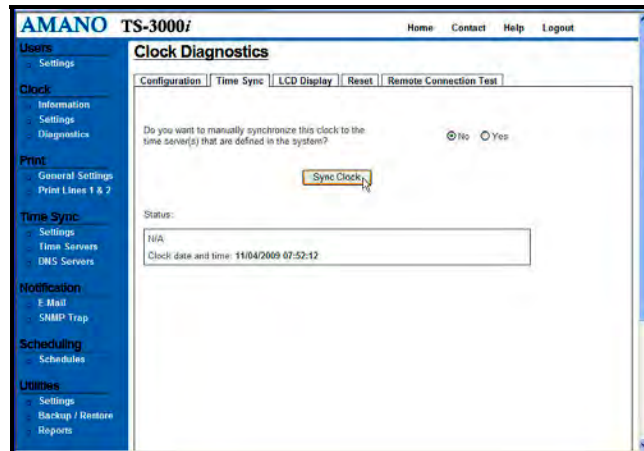

Figure 7-2. Manual Time Sync Clock.
Step 1. Click on the **Diagnostics** link under **Clock**, and the **Clock Diagnostics** screen will appear. Then click on the **Time Sync** tab and the Time Sync screen will appear (see *Figure 7-2*).